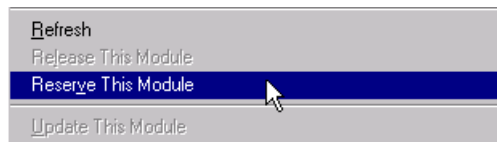

Figure 13-2. Reserving Modules
- 2 Reserve each module to be configured. Click anywhere on the module image except the port button, and choose **Reserve This Module** (Figure 13-2).